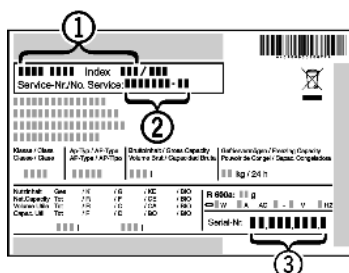

Fig. 32
- ▶ Read off the appliance name *Fig. 32 (1)*, service no. *Fig. 32 (2)* and serial no. *Fig. 32 (3)* from the model plate. The model plate can be found on the inside of the appliance on the left.